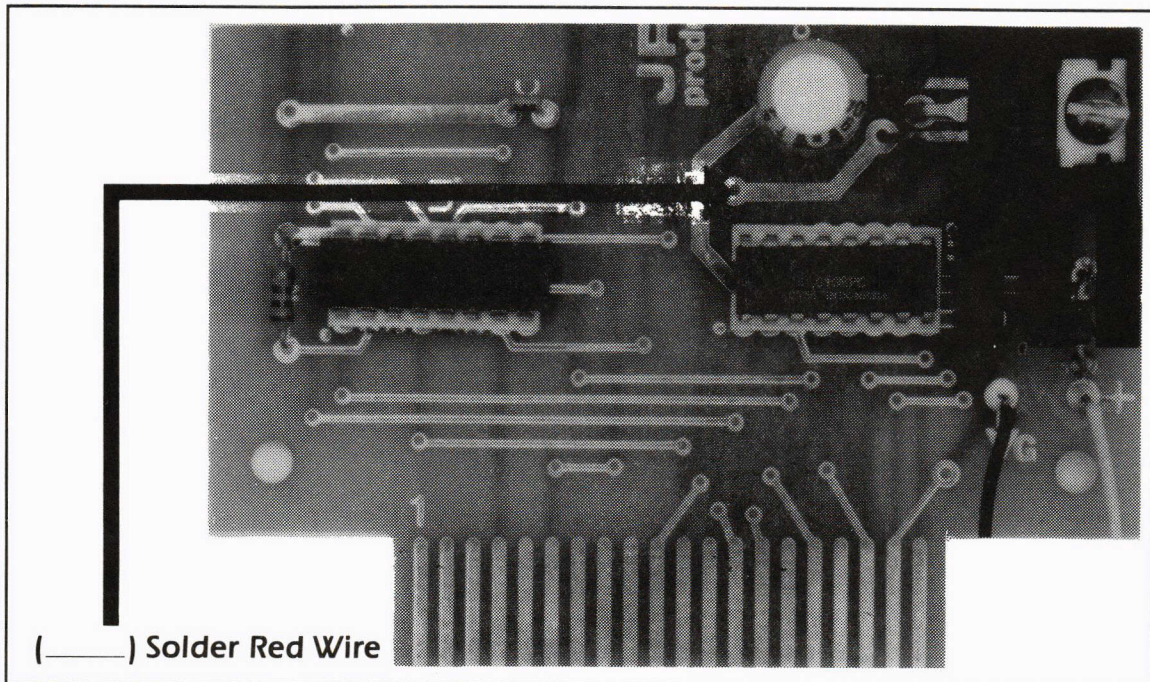

Figure 1
(1) Take the red wire from the EP-38 circuit board and solder it in the hole in the TC-8 Circuit Board as indicated in Figure 1 of this manual. Be careful that you select the proper hole and that you don't drip or splash any solder. Solder from the bottom side of the TC-8 board only.